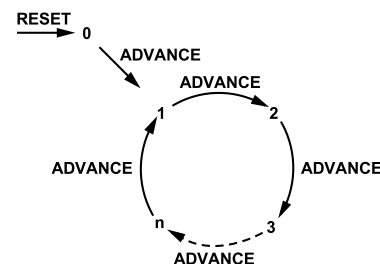

Figure 28. State Machine Position Loop
Figure 28 shows how the state machine pointer moves through a loop. In this diagram, n is the total number of states inside the loop. Because the sequencer depth bit field is 0 indexed, n is equal to one more than the value of the bits in the sequencer depth.
- ▶ Bit 0 to Bit 3: **MULT_STATES**. Sets the number of states in the loop (see Figure 28).
Register 0x017 contains Bit 0 to Bit 6, **TX_STATES**, which sets the number of states in the loop (see Figure 28).